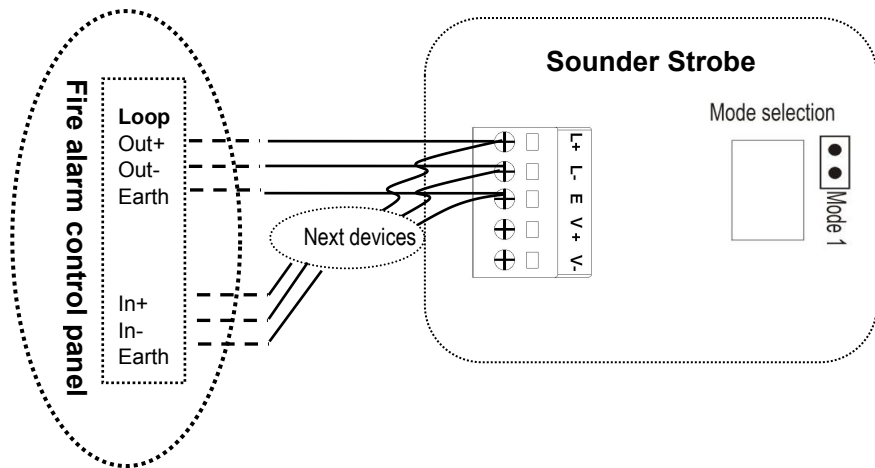

Figure4 Connection of mode 1
1. Select **Mode 1** (set the pin1 and pin2 of the **Mode Selection** to connected on the sounder strobe) as figure 4.